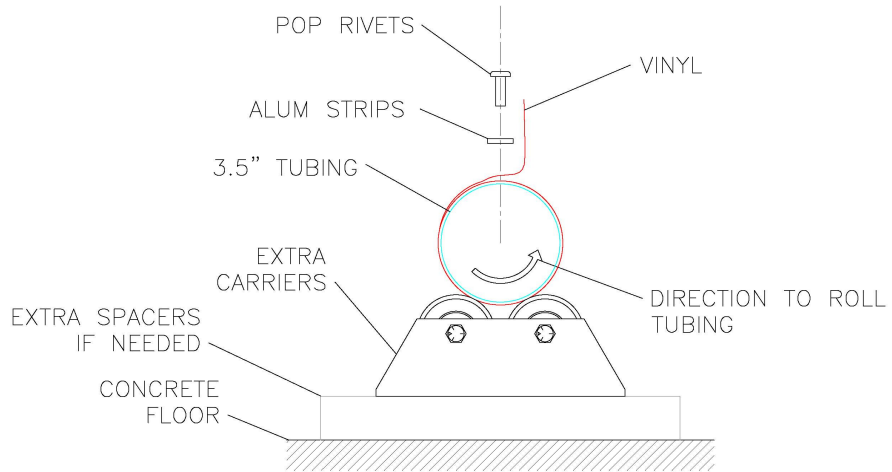

Figure 5. Illustration of how to secure wrapped vinyl to lower batten pipe.
4. Place aluminum strips on the backside of the vinyl and secure with rivets. Refer to figure 5.